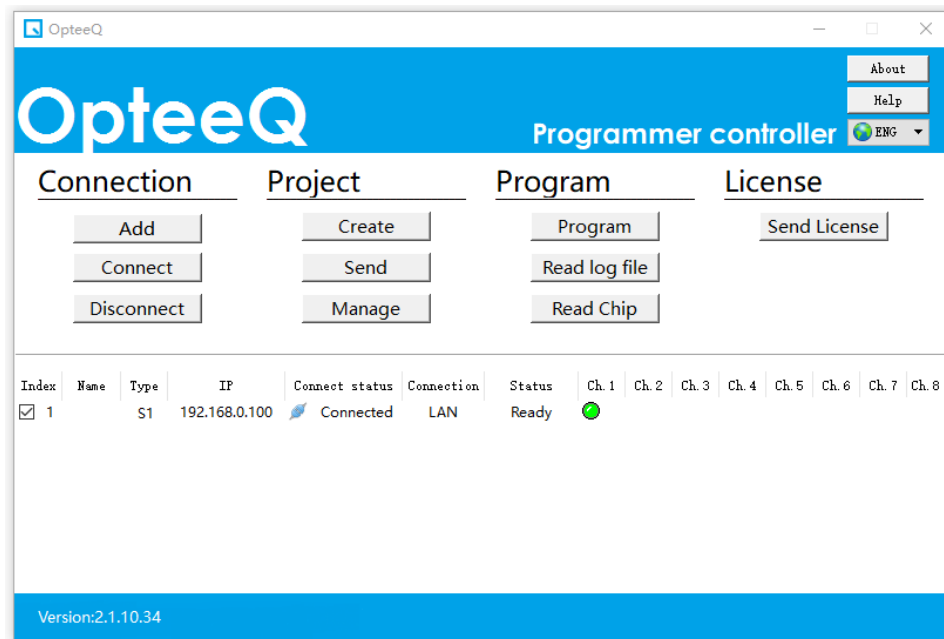

Figure 4.10: Display Interface Showing Successful Connection of the Programmer
2) The display interface showing that the programmer has been connected successfully is shown in Figure 4.10. When the PC is connected to the programmer successfully, the "LINK" LED indicator in the programmer lights up.